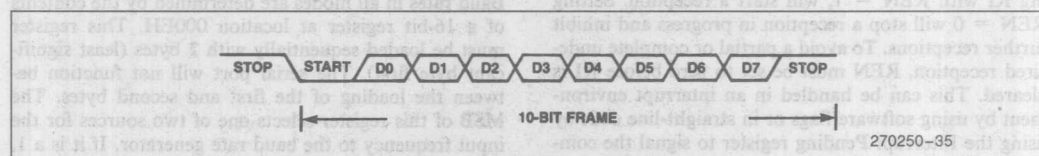

Figure 35. Serial Port Frame—Mode 1
Mode 1 is the standard asynchronous communications mode. The data frame used in this mode is shown in Figure 35. It consists of 10 bits; a start bit (0), 8 data bits (LSB first), and a stop bit (1). If parity is enabled, (the PEN bit is set to a 1), an even parity bit is sent instead of the 8th data bit and parity is checked on reception.